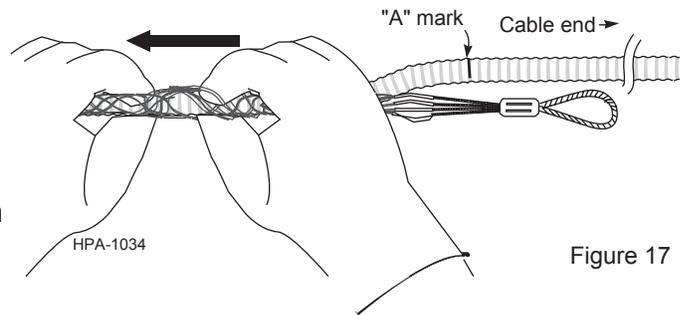

Figure 17
**5.7** Use a pumping action to “walk” the grip over the cable by bringing your hands together and then relaxing them until the end of the grip is past mark A on the cable (Figure 17).